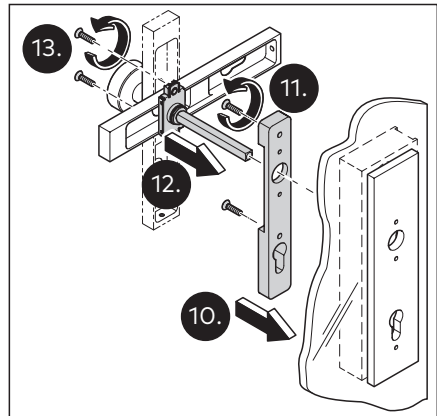

Fig. 26 Fix the base plate onto the lock mortise
10. Put the base plate on the lock mortise (Fig. 26).